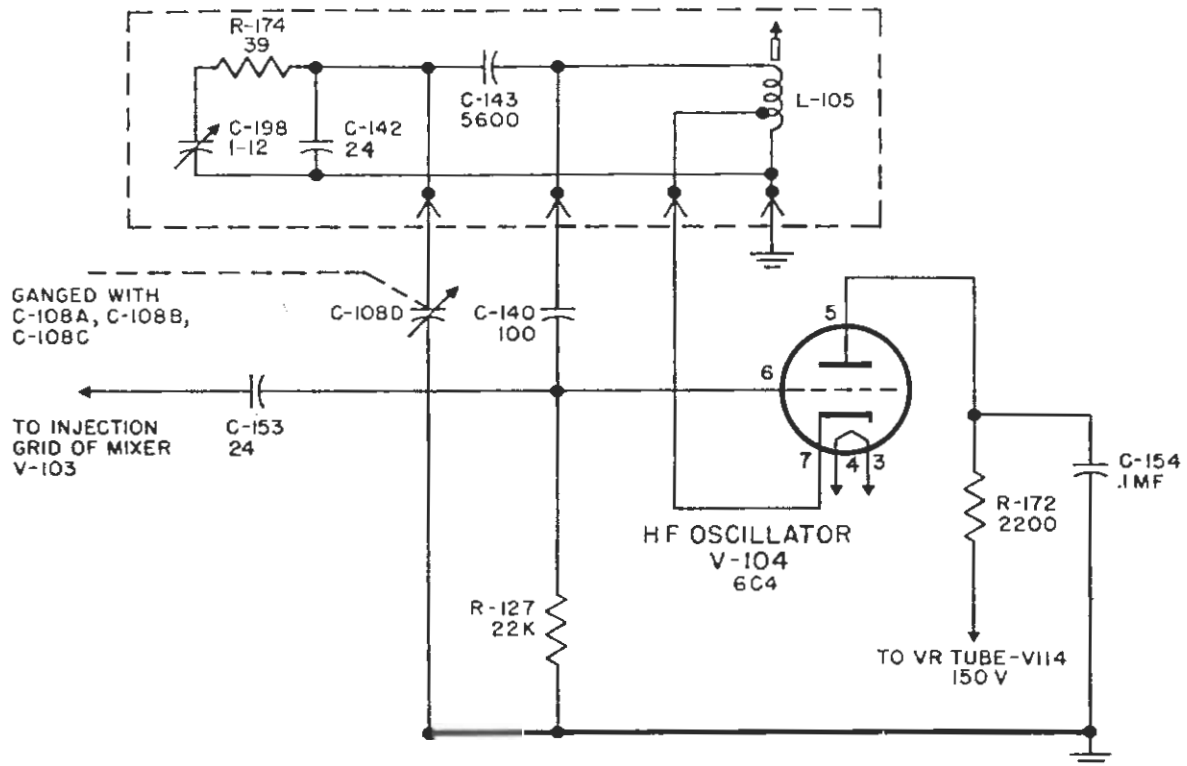

Figure 2-4. High Frequency Oscillator.
(4) HIGH FREQUENCY OSCILLATOR CIRCUIT (V-104). (See figure 2-4.)